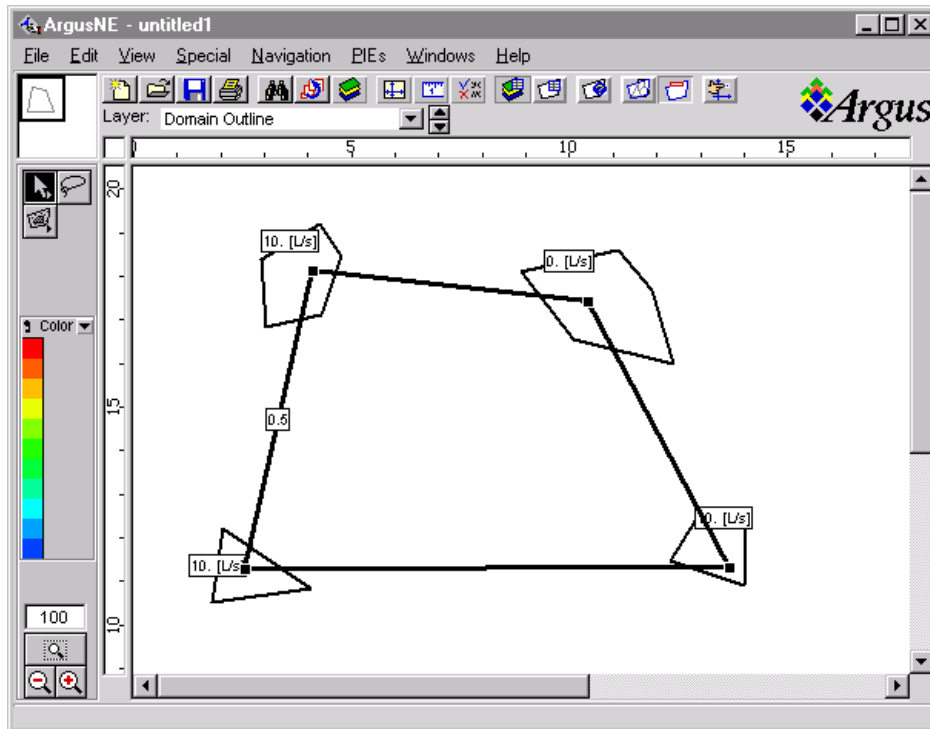

Figure 2. Model Boundary in Areal Ground-Water Flow Step-by-Step Example
- Draw a model boundary by first activating the contour-drawing tool. Then move the cursor into the white workspace and click in the center of one of the lakes. Proceeding around the workspace, click at the center of each lake. Try to create a domain outline that looks like the one shown in Figure 2. Then, double-click at the center of the last lake to close the model domain contour.
- The *Contour Information dialog* appears. Here the desired typical size of finite elements to be created by the mesh generator is specified. Type 0.5 in the space below the label, **Value**. This sets the desired width of an element to 0.5 in the units shown in the rulers around the periphery of the workspace. The result should look similar to the model boundary shown in Figure 2. Click **OK** to exit the window.